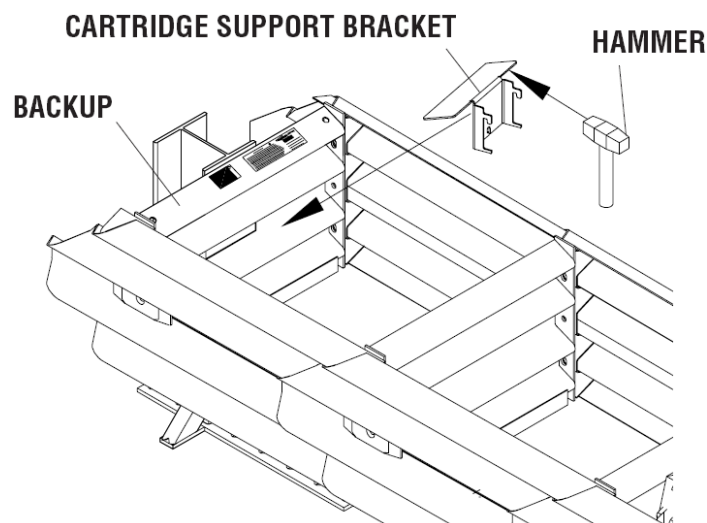

Figure 52
- C. Then, using a sledge hammer and Quad-Beam shape on Backup as an anvil, form Cartridge Support Bracket back into 90° shape (Figure 52).